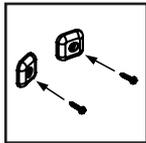

FIGURE 16
11. Take two handle supports and two 1" screws. Place screws through the hole provided in center of each support. **FIGURE 16.**